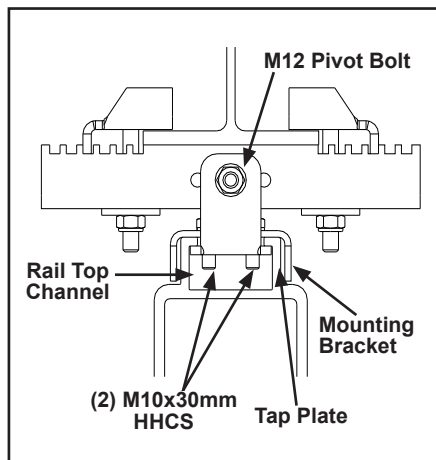

Figure 3-21
- Step 1. Remove cross bolts. Slide rail mounting bracket on top of bracket channel and tap plate into bracket channel at top of runway rail. Position per system layout. See Figures 3-21 through 3-23.